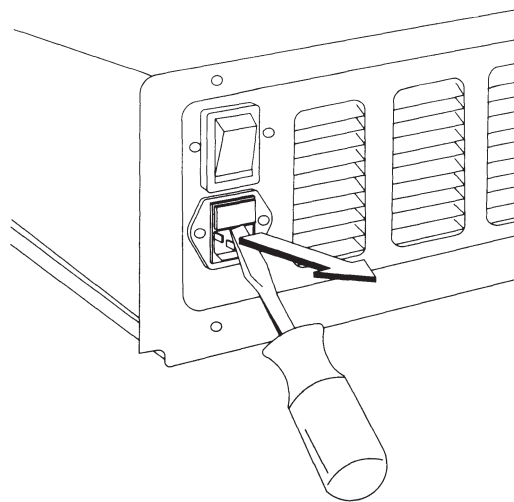

Figure 7-6. Removing the Fuse Holder.
2. Insert a flat-bladed screwdriver along the bottom edge of the fuse holder and lift it outward with enough pressure to release it from the casing (Figure 7-6).